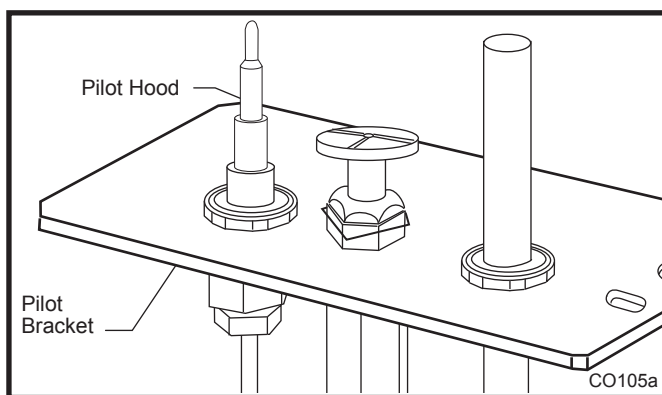

Fig. 72 Remove pilot hood.
1. Remove pilot hood by lifting up. (Fig. 72)